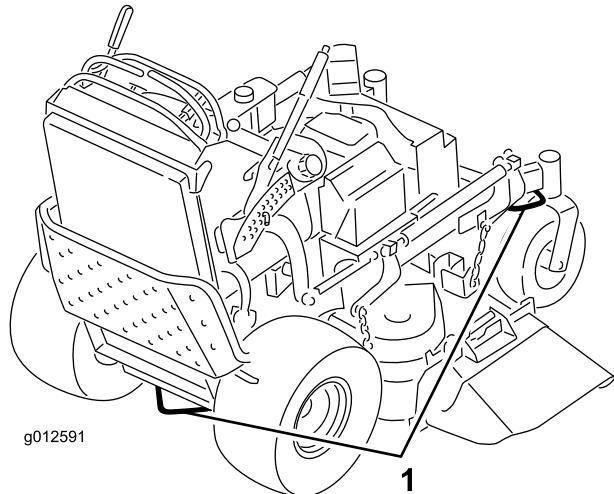

Figure 25
6. Use the metal tie down loops on the machine to securely fasten the machine to the trailer or truck with straps, chains, cable, or ropes (Figure 25).